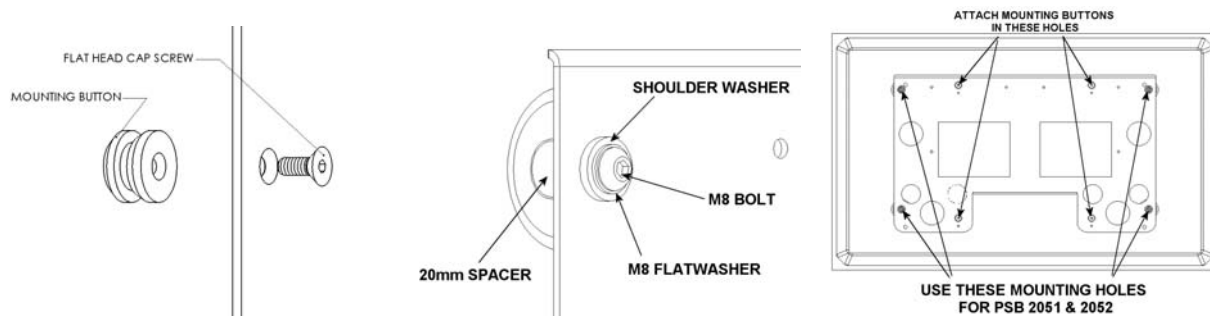

Figure 2
1. Using a 10-24 flat head cap screw inserted from chamfered hole side of bracket, secure mounting button, with chamfered hole of mounting button (larger surface) facing bracket, to bracket (four places). See Figure 2.
2. Place four 20 mm spacers on display over mounting threads in display (see Figure 2).
3. Place display bracket on display (see Figure 2) with bent lip towards the display, place shoulder washers into mounting holes and place M8 flat washers on top of shoulder washer (see Figure 2).